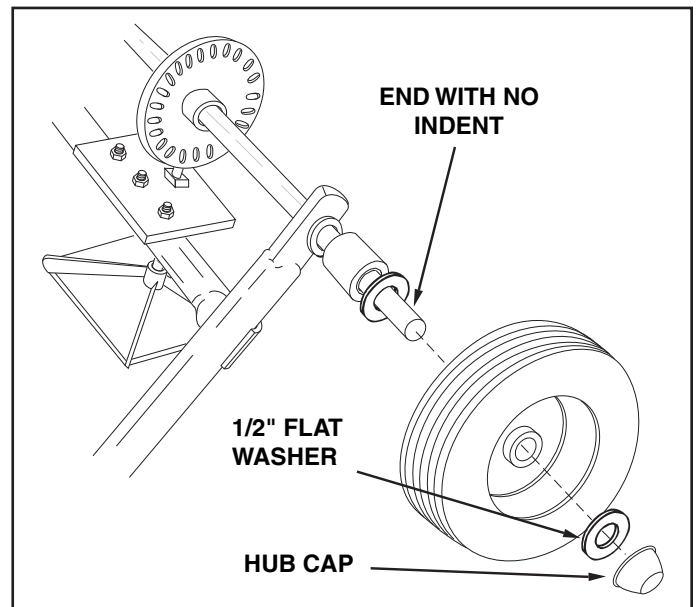

FIGURE 6
- Place the wheel (long end of hub first) onto the end of the axle that has no indents. See figure 6.
- Place a 1/2" flat washer onto the axle and then lightly tap a hub cap onto the axle until it is snug against the washer and wheel hub. See figure 6.